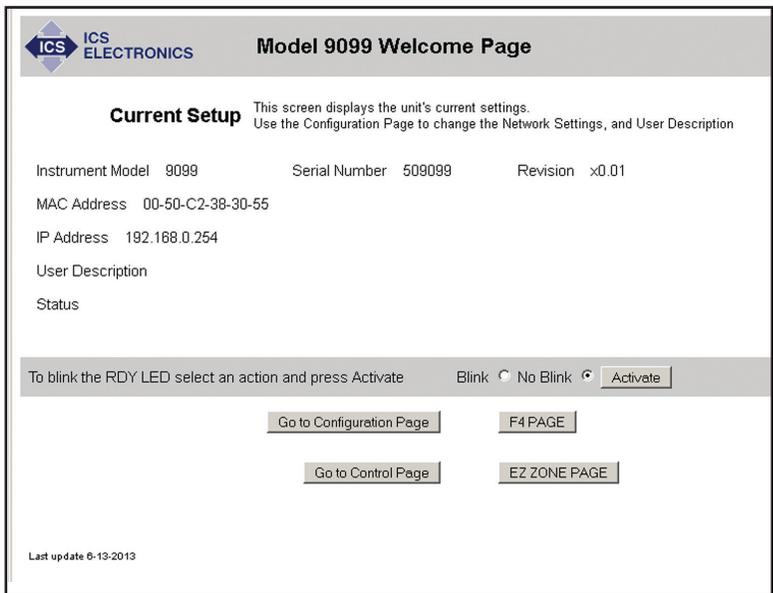

Figure 2-3 9099 Welcome Page
3. Open the web browser and enter the default IP address of 192.168.0.254 for new units (or your last set address for older units) in the browser address window. A Welcome Page similar to the one shown Figure 2-3 should appear in your browser.